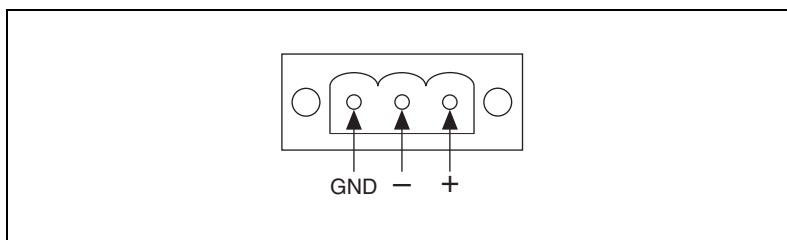

Figure 2-2. Power Receptor and Pin Assignment
4. Connect the power connector to the power receptor on the TPC-22xx. The power receptor pin assignment is shown in Figure 2-2.